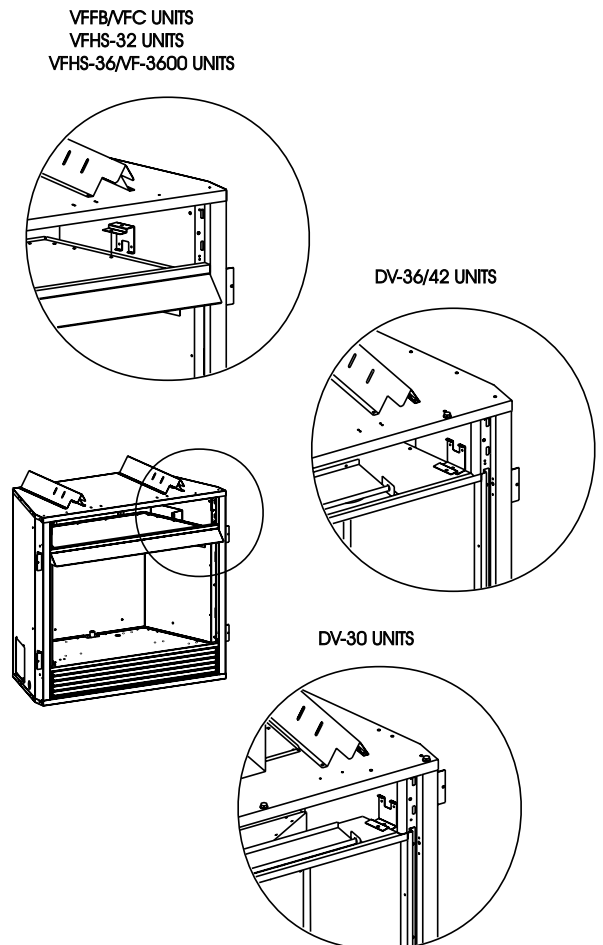

Figure 2
10. Refer to Figure 2 for fan control bracket location that applies to your firebox. Align clearance hole on fan control bracket with screw hole on firebox top.
13. Attach one (1) cord set wire to one (1) blower assembly wire.
14. Attach one (1) cord set wire to one (1) fan control wire.
15. Attach one (1) blower assembly wire to one (1) fan control wire.
16. Align and insert (4) mounting tabs on top louver with (4) slots on casing top. Push downward to lock the top louver into position.